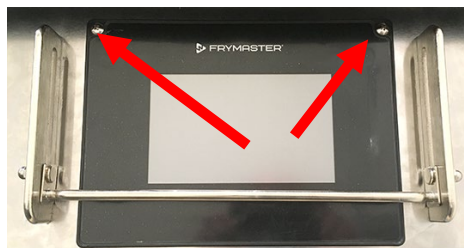

Figure 1
- b. Remove the two Phillips head screws from the upper left and right corners of the controller (see Figure 1).